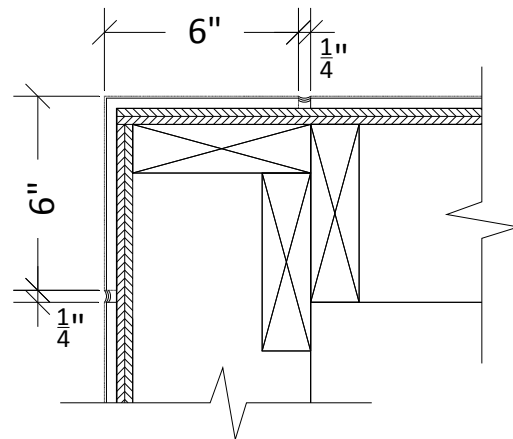

Fig. 2 - Outside Corner (Pre-Made)
1. Work should begin with installation of pre-fabricated corner panels or with standard panels that will butt or miter into the corners. This is typically the most visual location and the corners should not be cut unless absolutely necessary. Refer to fig. 2,3, for corner detail.